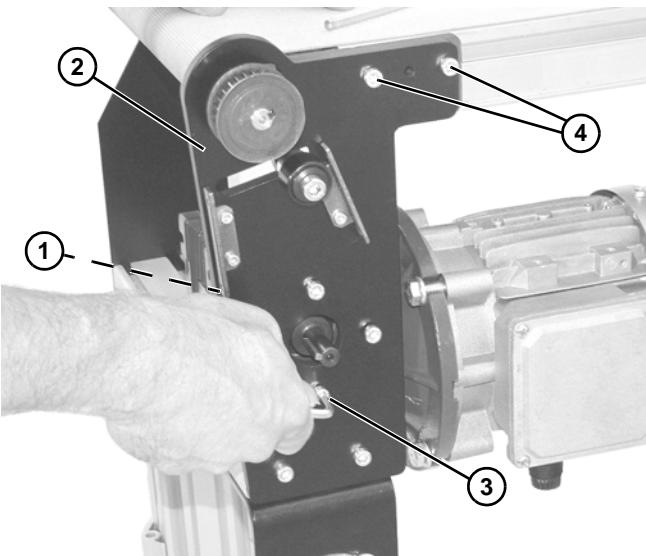

Figure 13
6. Install spacer (**Figure 13, item 1**) and gearhead/conveyor support plate (**Figure 13, item 2**) with screws (**Figure 13, item 3**).
7. Install support plate (**Figure 13, item 2**) with screws (**Figure 13, item 4**). Tighten screws (**Figure 13, item 3**) and (**Figure 13, item 4**) to 80 in-lb (9 Nm).